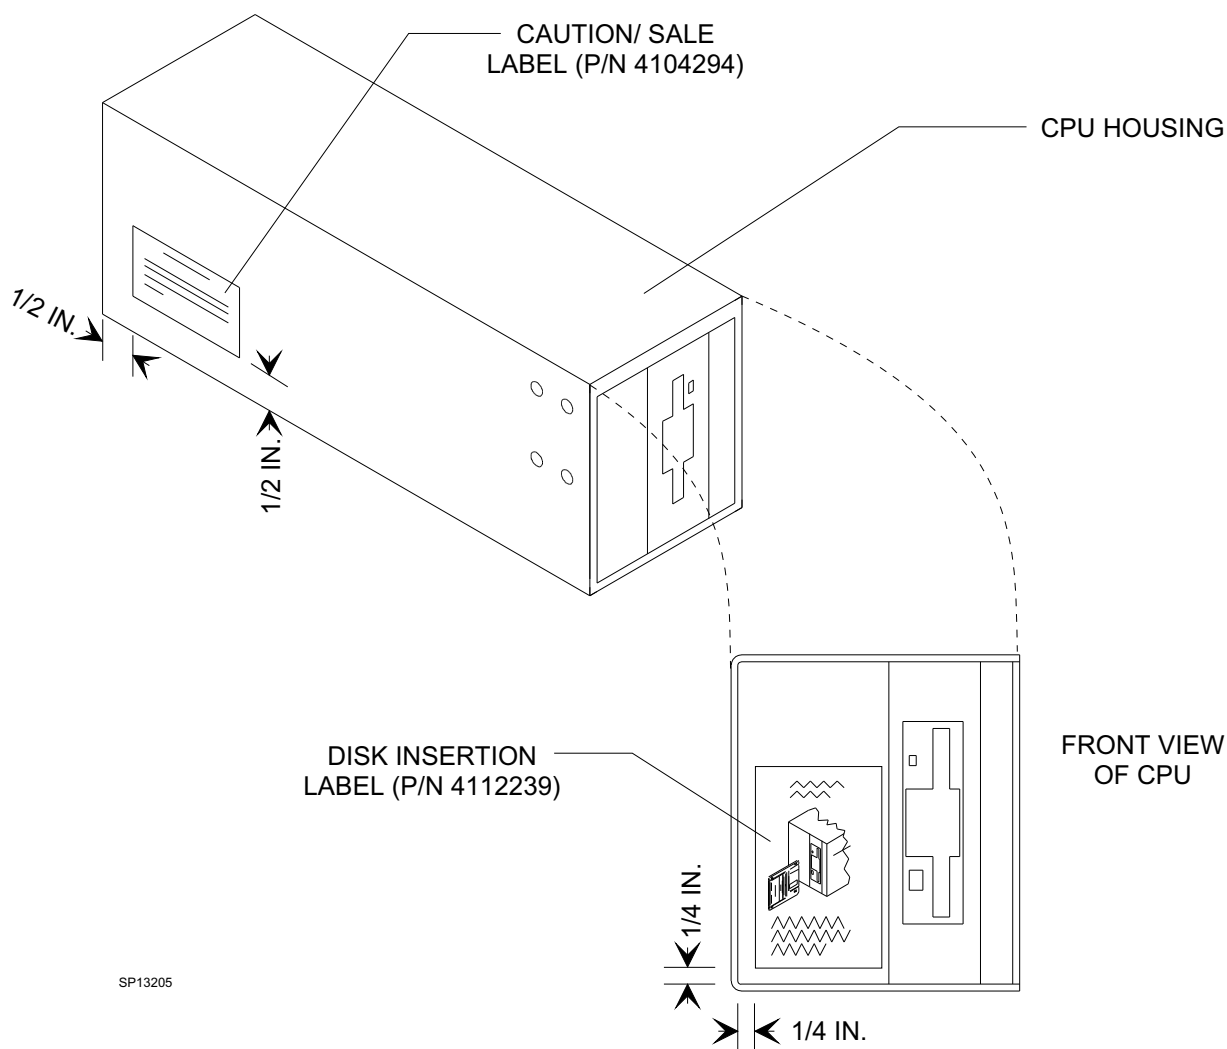

Figure 5: PLACEMENT OF LABELS
18. Apply the disk insertion label (P/N 4112339) to the front of the CPU housing, positioned and oriented as shown in Figure 5. Ensure that the sticker area is clean, dry and free of cleaning solution residue.
19. Apply the CAUTION/SALE label (P/N 4104294) to the side of the CPU housing as shown in Figure 5. Ensure that the sticker area is clean, dry and free of cleaning solution residue.